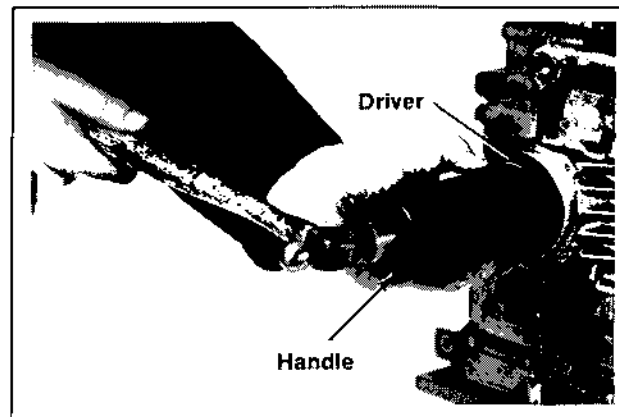

Figure 11-24. Installing Oil Seal Using Driver.
2. Using the #11795 handle and appropriate seal driver, install the front oil seal to a depth of $\frac{1}{32}$ " ($+\frac{3}{64}$ "; $-\frac{1}{64}$ "). Refer to Figure 11-24.
6. Using the #11795 handle and appropriate seal driver, install the rear oil seal to a depth of **5/32" (+3/64"; -1/64")**. Refer to Figure 11-24.